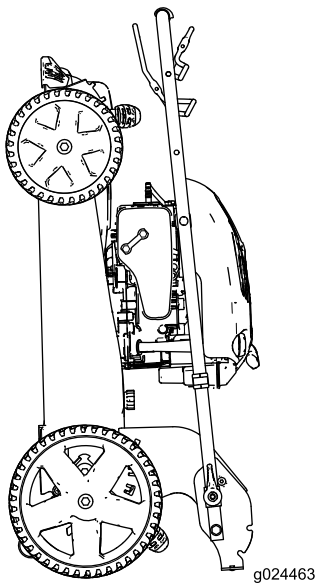

Figure 18
6. Lift the front of the machine by the handle and move it into a storage space (Figure 18).